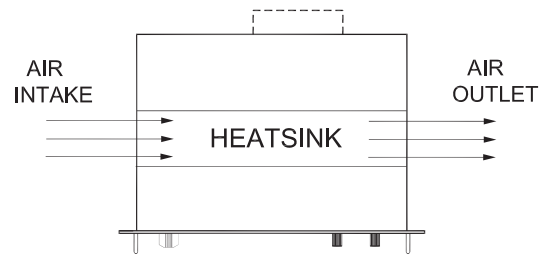

fig. 4 - 13
- The internal construction of the power supply is such that no dust will reach the sensitive control circuitry, only the heat sink in a tunnel will be cooled by forced air (see fig. 4 - 13).